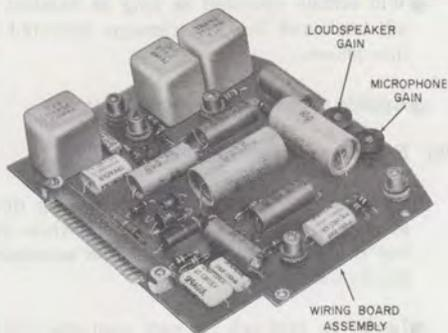

Fig. 4—Amplifier Gain Controls
(2) Turn microphone and loudspeaker gain controls (Fig. 4) fully counterclockwise (minimum gain).
(3) Connect ♦1013A or 1011B (MD)♦ test set with switch in TALK position to terminals 2R and 2T on the 51A control unit.
(4) Turn loudspeaker gain control clockwise 1/4 turn.
(5) Turn microphone gain control slowly clockwise until feedback occurs in the test set and then counterclockwise until feedback just stops.
(6) Make final check of interphone and door answering feature as follows: